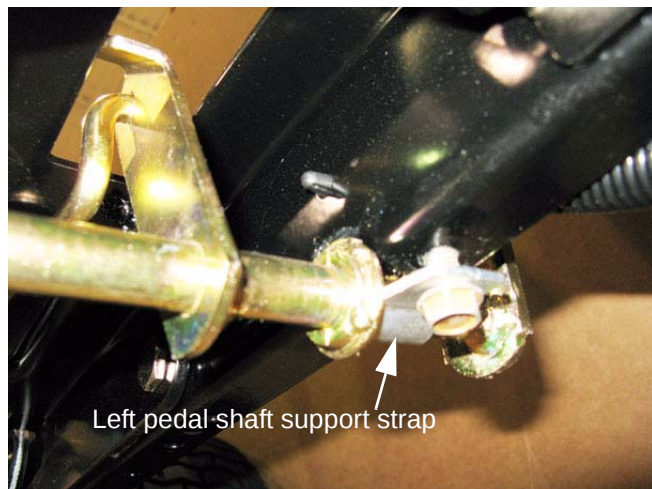

Figure 6.25
10. Loosen the bolt that holds the left pedal shaft support strap using a 1/2" wrench. See Figure 6.25.